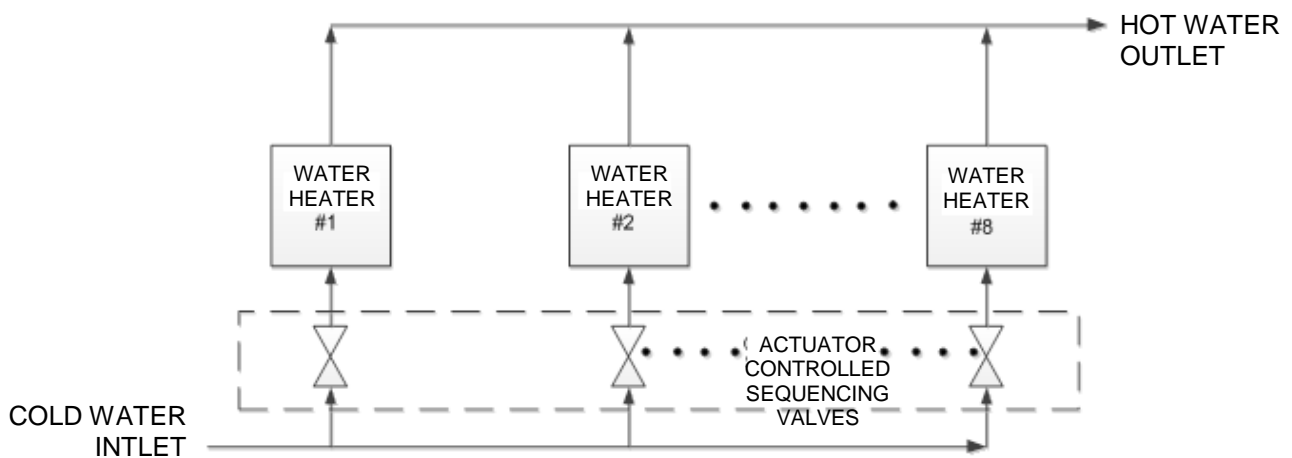

Figure 9-1. Simplified Block Diagram - Water Heater Management (WHM)
The C-More Water Heater Management System (WHM) is designed to ensure that all water heaters in the system operate at maximum efficiency. This is accomplished by monitoring the Air/Fuel Valve position (VP) of all water heaters that have their sequencing valves open. Units with open sequencing valves are called enabled units. Units with closed sequencing valves are called disabled units. Units which are unable to function, due to a fault or user intervention, are called offline units. When there is minimal or no demand for hot water, the sequencing valve for one unit will be open. As system load increases, the WHM will open the sequencing valves on additional heaters. A simplified block diagram of multiple water heaters connected to a WHM is shown in Figure 9-1.